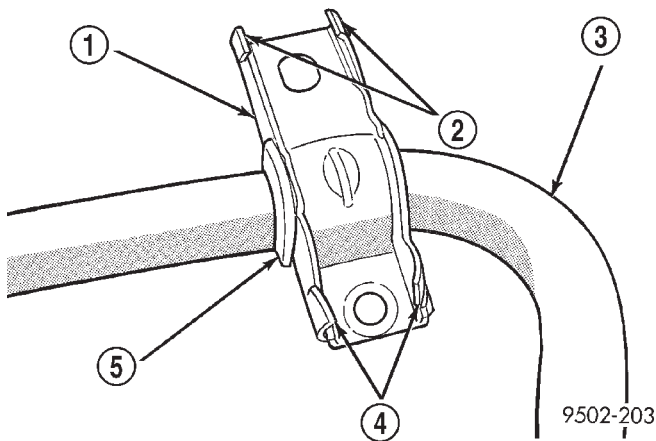

Fig. 88 Stabilizer Bar Bushing Retainer
(1) Bend back the 4 crimp locations on the stabilizer bar bushing retainer (Fig. 88).